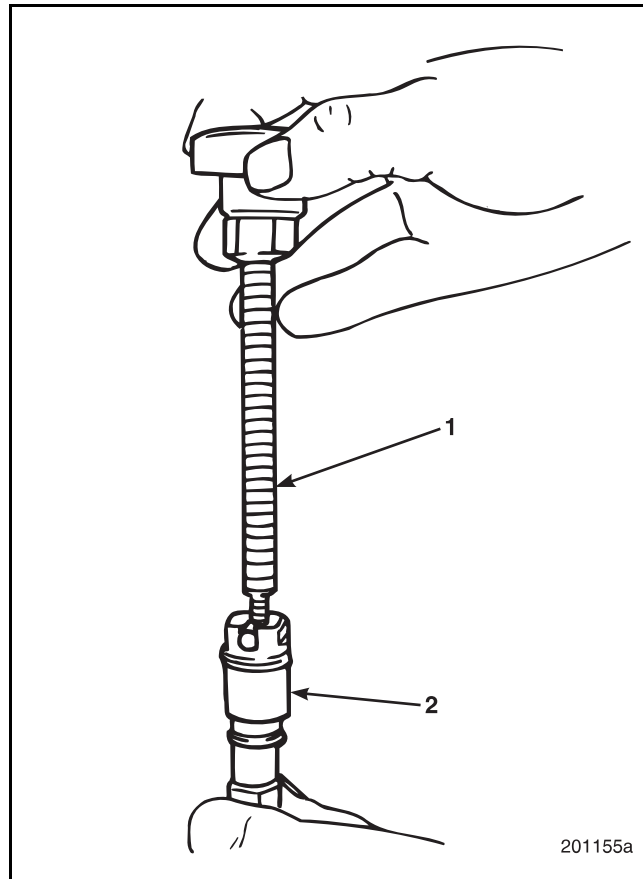

Figure 6-62 — Puller Application
3. Thread injection nozzle puller J 37093 into the top of nozzle holder. Refer to Figure 6-62.